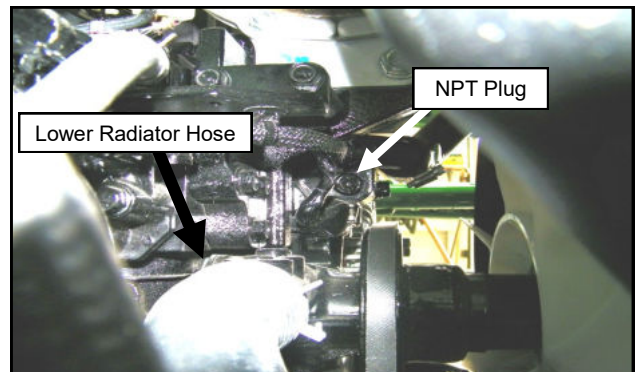

Fig. 20.4a (Remove NPT Plug from Engine)
- 20.4** Remove the NPT plug from the front of the engine and install the block adapter with Teflon tape. See Figures 20.4a and b.